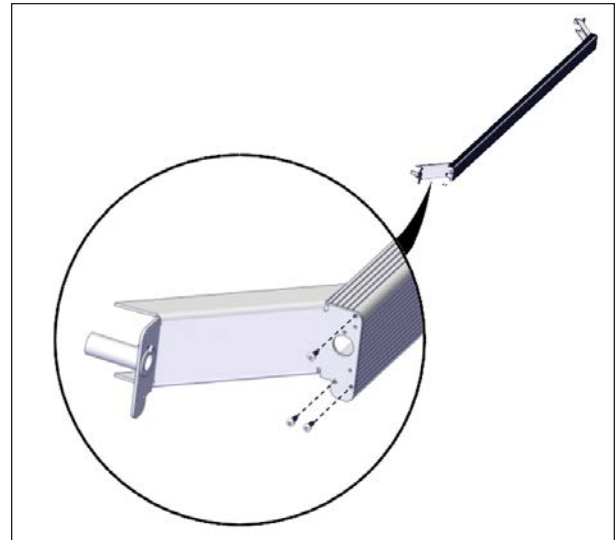
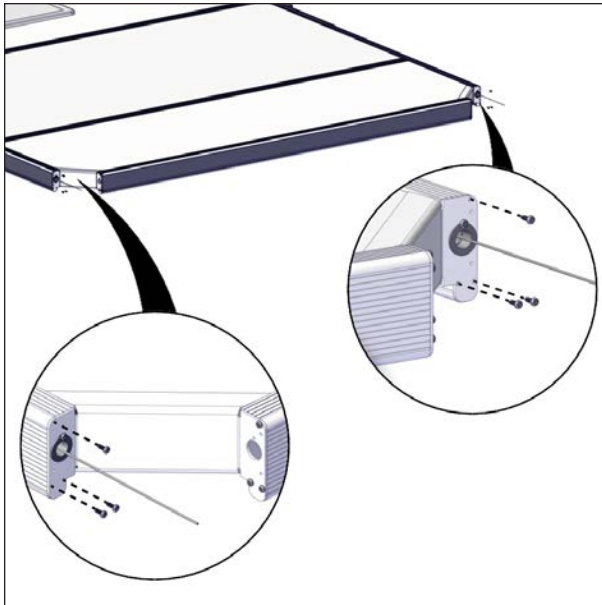
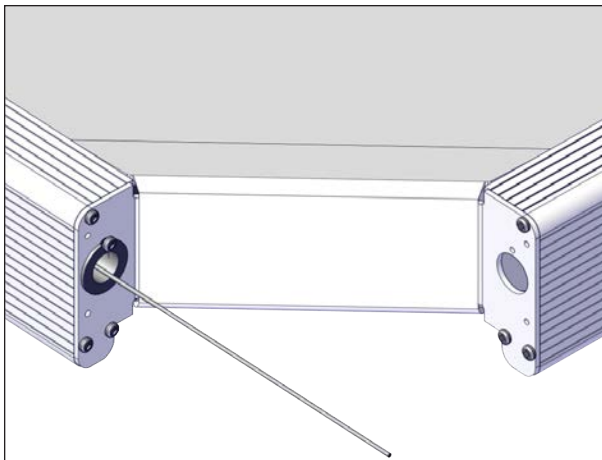

FIGURE 45: CORNER BRACKET SUPPORT INSTALLATION
FIGURE 46: END C-CHANNEL INSTALLATION
FIGURE 47: WIRE INSTALLATION
2. Install one left and one right corner bracket supports on each end C-channel with three no. 8 x 1/2" self-tapping screws, see Figure 45.
Figure 45 and Figure 46 display the proper orientation of the left and right brackets.
3. Take the assemblies made at the previous step (Figure 45) and slide them on the edge panels (Figure 46) located on each side of the cover. Make sure that the wire passes through the hexagonal guide bushings (Figure 47).
4. Use a #2 square screwdriver to secure the corner bracket on the short C-channel by using the #8 x 1/2" screws (Figure 46).